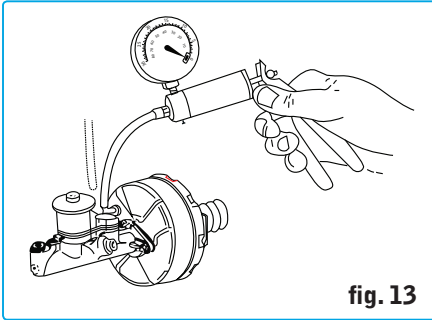

fig. 13
2. Attach the vacuum tester line to the vacuum supply port on servo (figure 13).